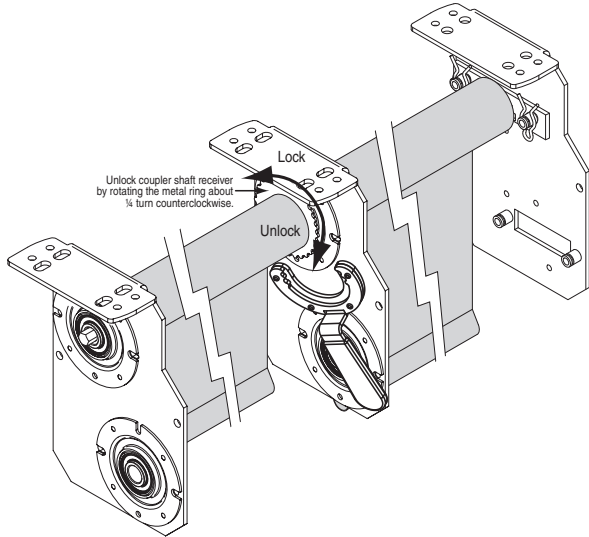

Figure 14
- ① Unlock height adjuster mechanism (or coupler shaft receiver) located at the operator end of fabric roller assembly being adjusted by using the included Spanner to rotate the metal ring about  $\frac{1}{4}$  turn counterclockwise when viewing the face of the coupler assembly (see Fig. 14).